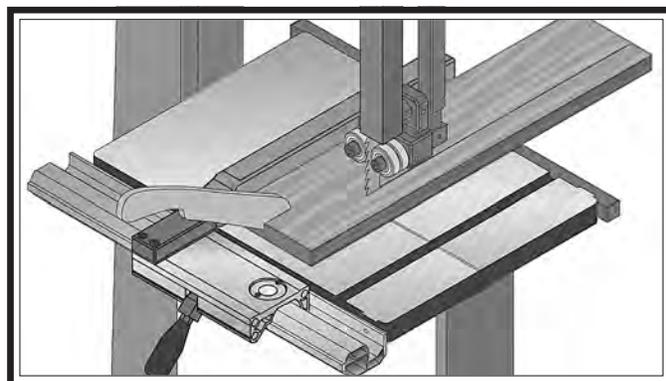

Figure 67. Example of a ripping operation.
- After all safety precautions have been met, turn bandsaw **ON** and wait for it to come to full speed. Slowly feed workpiece into blade until blade is completely through workpiece. **Figure 67** shows an example of a ripping operation.